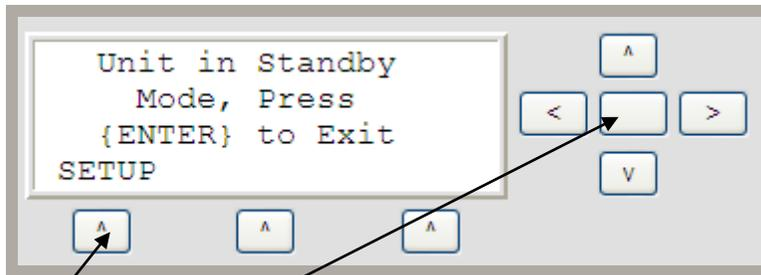

Figure 2 - Standby
9. Once **432 Compatible** is selected use the **Back** soft-key to get back to the **Standby** screen (Refer to Figure 2).